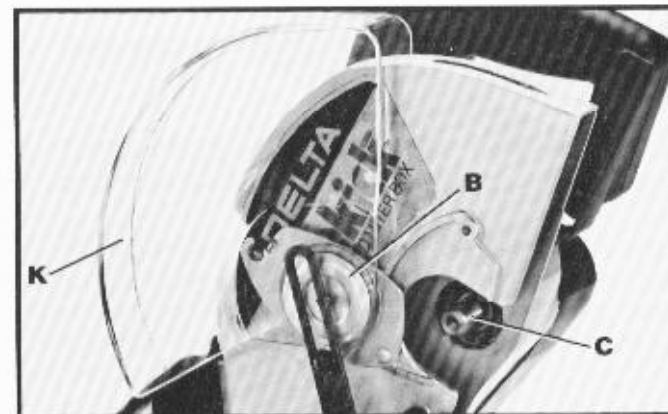

Fig. 7
2. Rotate arbor cover (B) Fig. 7, and lower guard (K) to the rear, exposing saw arbor (C), as shown.